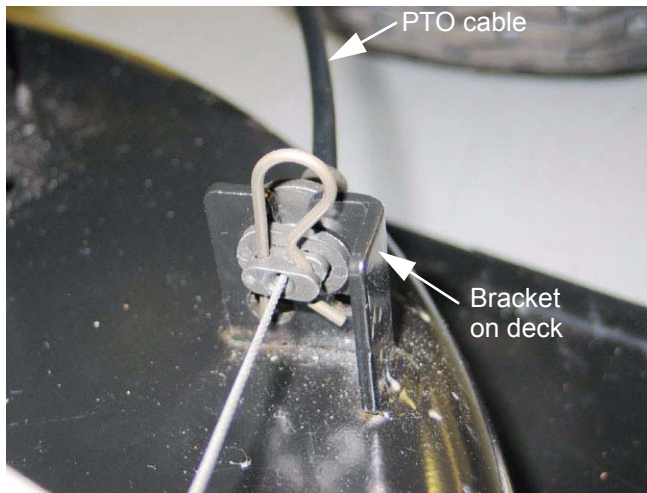

Figure 2.10
- 2.10. The PTO control cable can be disconnected by removing the hairpin clip that secures it to the bracket on the deck. See Figure 2.10.